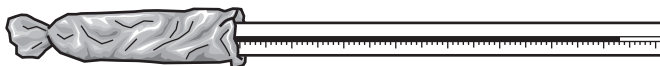

Fig. 2.1
3. A piece of aluminium foil $4\text{cm} \times 8\text{cm}$ should be rolled around a cylinder (e.g. a pencil) that is slightly wider than the thermometer. The tube of aluminium should be pinched at one end. The thermometer should be able to slide in and out easily, as shown in Fig. 2.1. A few spares should also be made.